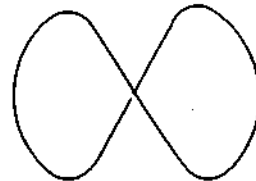

Fig. 4-2-2 Lissajous Pattern
- (b) Adjust the output phase of the 19 kHz pilot signal to obtain the stable Lissajous pattern shown in Fig. 4-2-2.